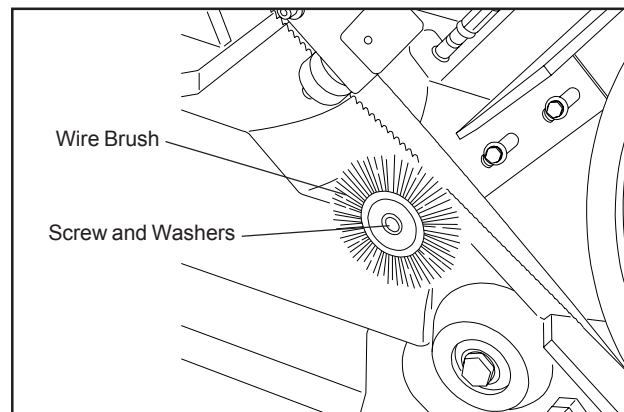

Figure 20: Wire brush
2. Remove the attaching screw, spring washer and washer. Remove and discard the brush (see figure 20).